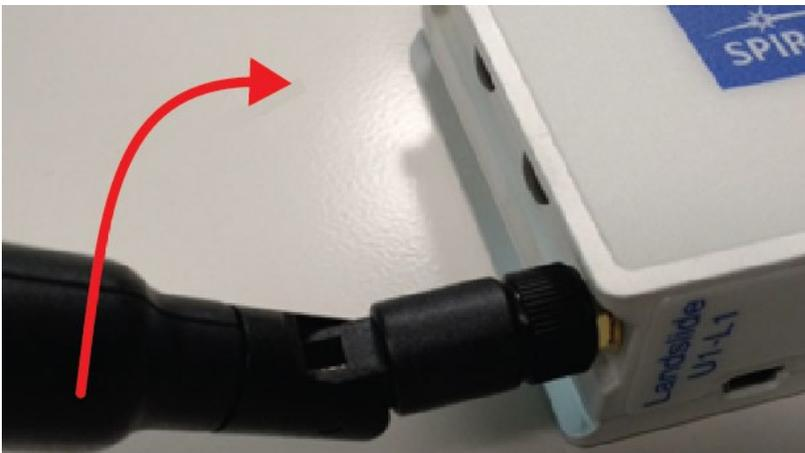

Figure 20. Placing the Pivot in the Correct Position
- Figure 20 shows the port numbering.